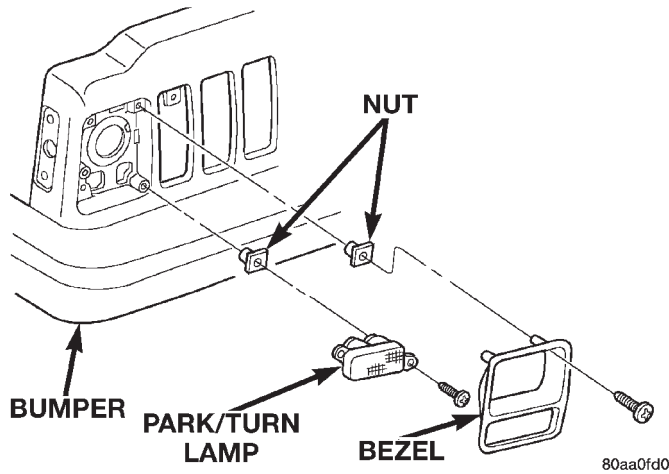

Fig. 3 Park/Turn Signal Lamp
- (2) Remove the screws attaching the park/turn signal lamp housing to the grille opening panel (Fig. 3).
- (3) Remove the bulb sockets and separate from the vehicle.